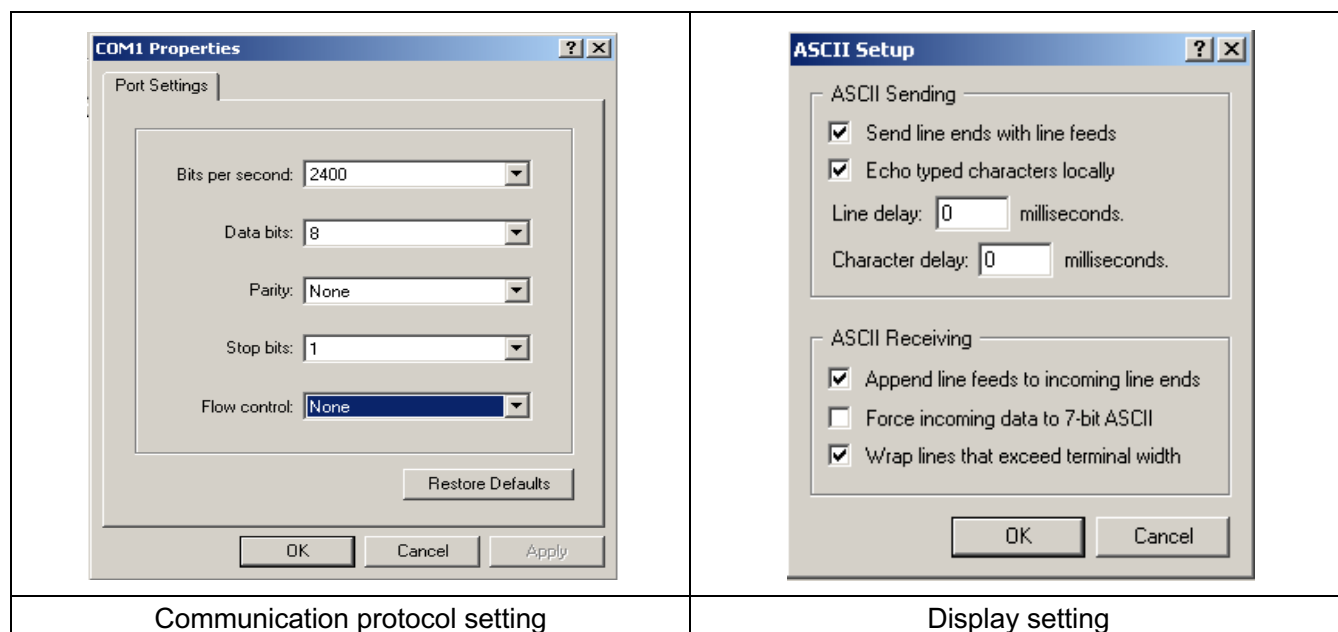

Figure 7.1 Hyper terminal setting
1. Connect the RS232 port of the UPS to the RS232 port of the computer with RS232 cable. Choose the “Start>>Program>>Accessory>>Communication>>Hyper terminal” and start Hyper terminal application. Set the COM port for “COM1” and the other setting as Figure 7.1.